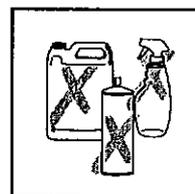

Fig. 40
- Do not use chemical cleaners to clean your air washer (Fig. 40).